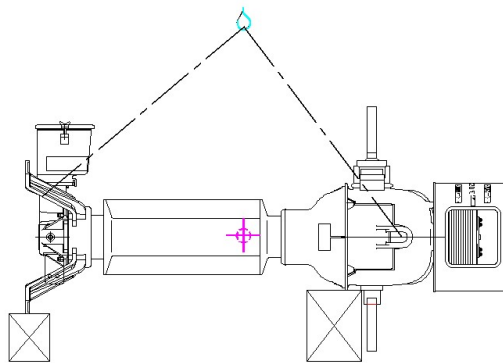

图 7.1 吊装示意图
(2) 起吊位置：一根吊带锁扣住互感器头部储油柜两侧吊攀，另一根吊带应捆绑在产品底脚上，根据产品重心调整吊绳位置，保持产品重心平衡，产品起吊平稳，防止磕碰，损坏产品。
(3) 放置要求：互感器水平放置时，注意在互感器底部垫上木块，以防导排磕碰。如图 7.1 所示
(2) lifting position: One belt should lock on both sides of the oil tank at the head of the transformer, the other belt should be tied to the bottom of the product, adjust the position of the lifting rope according to the product's center of gravity to keep the balance of the product's center of gravity, and the lifting of the product should be stable to prevent bumping, damaged product.
(3) placement requirements: When the transformer is placed horizontally, pay attention to the bottom of the transformer pad on wooden blocks to prevent guide row knock. As shown in figure 7.1
Fig. 7.1 lifting diagram